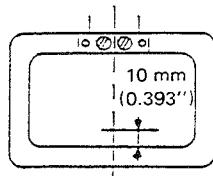
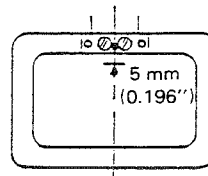
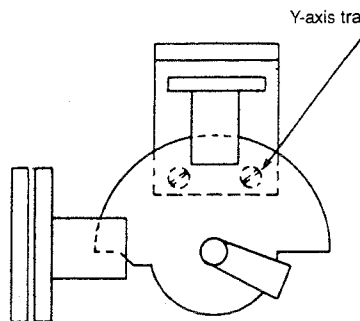

Fig. 5-29-4
Fig. 5-29-5
Fig. 5-29-6
- 2) Turn on the power switch ON, then slide the feed bracket backward. The error LED changes from ●○● to ○○● and the clearance between the travel limit and the feeding frame is 10 mm (0.393") as shown in Fig. 5-29-4.
- 3) Slide the feed bracket forward. The error LED changes from ●●● to ○●● and the clearance between the travel limit point and the feeding frame is 5 mm (0.196") as shown in Fig. 5-29-5.
<p>(B) Adjusting the Y-axis origin and travel limit sensor</p> <ol style="list-style-type: none"> 1) Set SW5 to "2." 2) Turn the power switch ON. Set the feed bracket as shown in Fig. 5-29-1, for 205C and Fig. 5-29-2 for 206C. 3) Loosen the Y-axis slit disk setscrew (Fig. 5-29-6). Fix the Y-axis slit disk by tightening the setscrew when the error LED changes from ●●● to ●○●. 4) Loosen the Y-axis travel limit setscrew. 5) Slide back the feed bracket to the position indicated in Fig. 5-29-4. Tighten the Y-axis travel limit sensor setscrew when the error LED changes to ●○● ⇌ ○○●. 6) Tighten the slit adjusting disk setscrew. 7) Slide the feed bracket forward. Move the slit adjusting disk in the position of Fig. 5-29-5, so that the error LED changes to ●●● ⇌ ●○● then tighten the slit adjusting disk setscrew. <p>(Caution) Since 205C is only for bartacking, adjust only the origin position. For the travel limit make sure that the setscrews are well tightened. Set the SW5 to "zero" after completing the adjustment.</p>